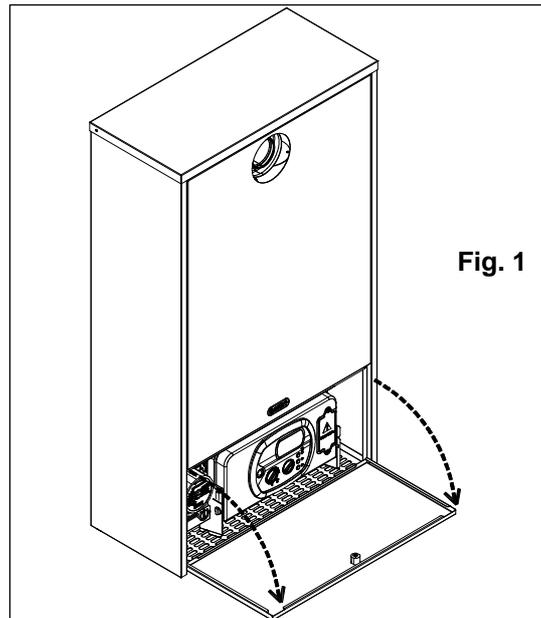

Fig. 1
- rotate it downwards (see fig.1)